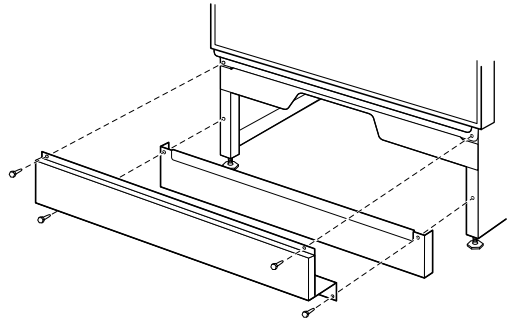

Figure 1
**NOTE:** Pump motor styles vary by model. Refer to Figure 1 or Figure 2, depending on the style of your dishwasher.